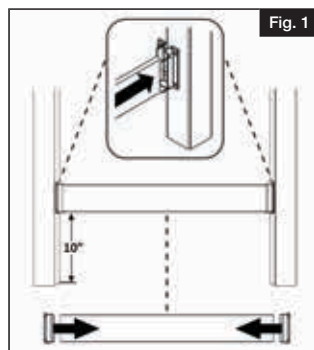

Fig. 1
- Offset bottom brackets 10" above finish grade and center bottom rail on posts (Fig. 1).
- Mount brackets to posts using included 4 screws per bracket. Insert white screw head caps to hide screws (Fig. 1).